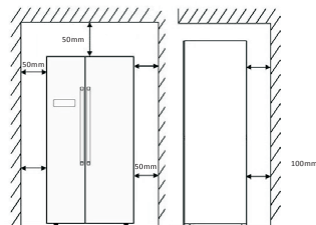

Fig. 1
- Ensure sufficient spacing is provided for the appliance to be installed. Leave space on both sides (50cm), back (10cm) and above the appliance (50cm) to ensure proper ventilation and door opening. See fig. 1&2